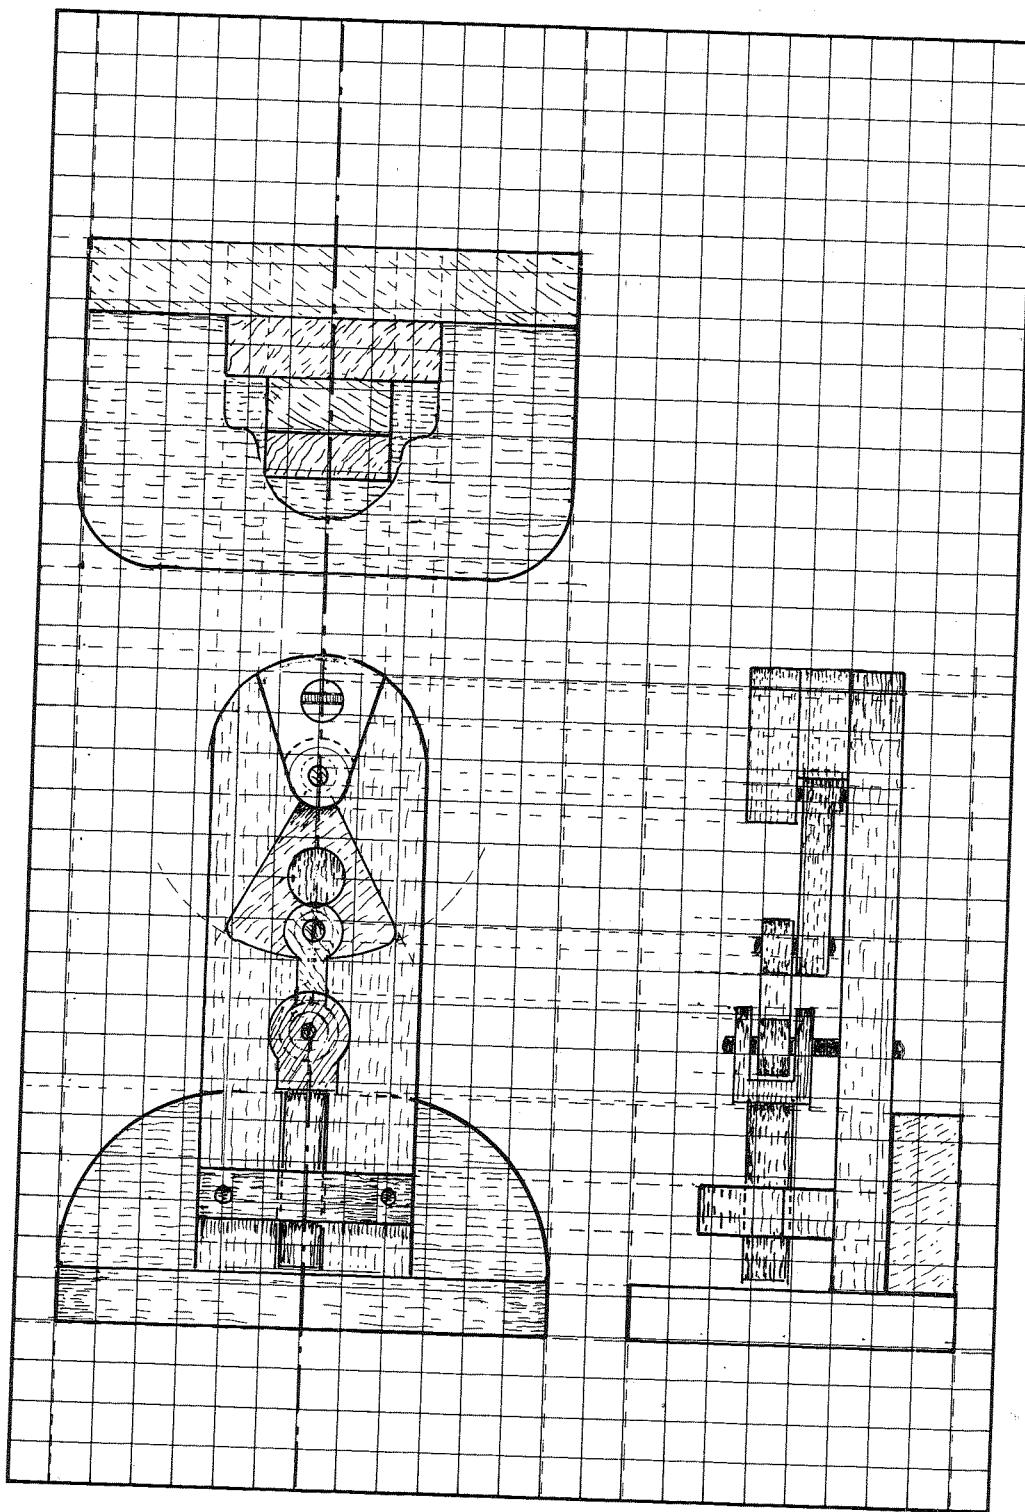
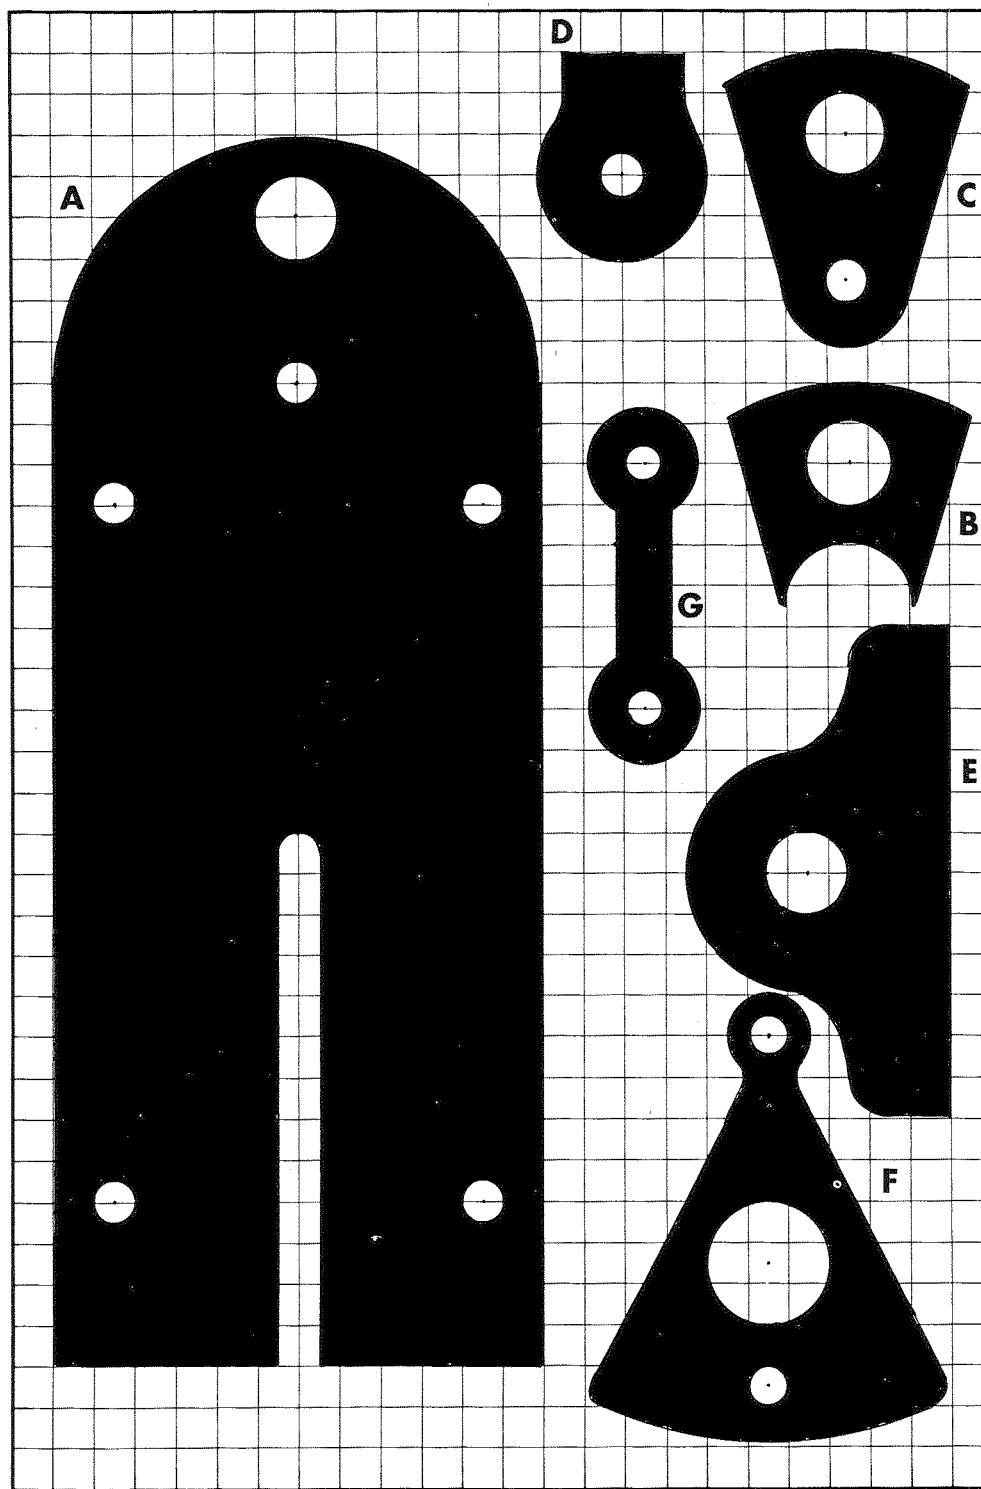

FIGURE 2-1A
FIGURE 2-1B
Have a look at the working drawing (Fig 2-1a), the template design (Fig 2-1b) and the various photographs, and you'll see that this project is somewhat complicated in that it is made up of a large number of small moving parts. This is not to say that each component is in itself difficult to cut—far from it—but rather that the sum total of putting all the parts together does require a lot of thinking and a lot of fine adjustment.
Study the working drawing (Fig 2-1a), and consider how the machine is made up of the primary units: a base with a low, glue-fixed backboard, a high, round-topped backboard with a pivot rod location slot and various pivot holes, a plate and spacer to hold the sector, the swinging sector weight itself, the connecting rod, the pivoted cross-head joint and punch, and the bracket.
- Having carefully studied the working drawing (Fig 2-1a) and template design (Fig 2-1b), take the two 6"-long pieces of wood—the oak at $\frac{5}{8}$ "-thick and 4"-wide, and the olive at $\frac{7}{8}$ "-thick and $2\frac{1}{4}$ "-wide—and the $7\frac{1}{2}$ "-long 3"-wide board, and use the pencil, ruler, square and compasses to mark all the lines that make up the design.
- Have a good, long look at the working drawing (Fig 2-1a) and photographs, and note how this project is perhaps slightly unusual in that all the small parts are cut out on the scroll saw.
1 Have a look at the working drawing (Fig 2-1a) and template design (Fig 2-1b), and see how the two components—the bracket and the sector—are simple flatwood profiles that are cut out on the scroll saw.